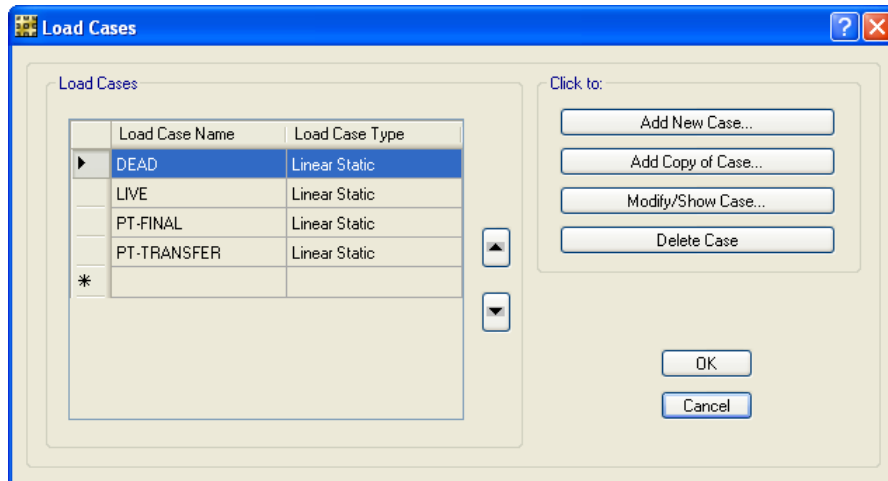

Figure 68 Load Cases form
- A. Click the **Define menu > Load Cases** command to access the Load Cases form shown in Figure 68.